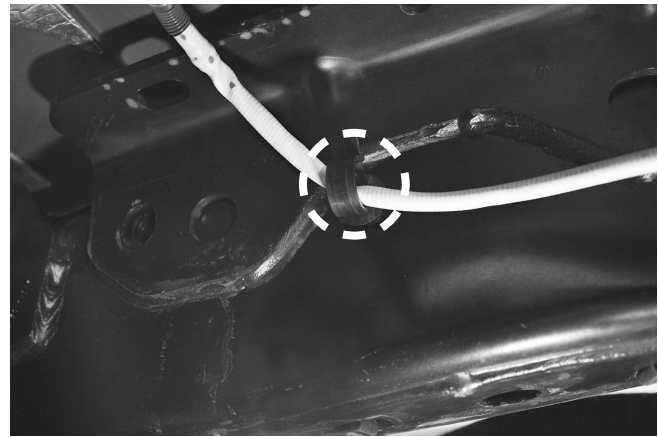

Fig. 25
- To install the passenger's (right) side upper brace (F) locate the clip (red circle Fig. 25) that holds the wiring harness for the O2 sensor. Remove and discard the clip as it will no longer be needed.